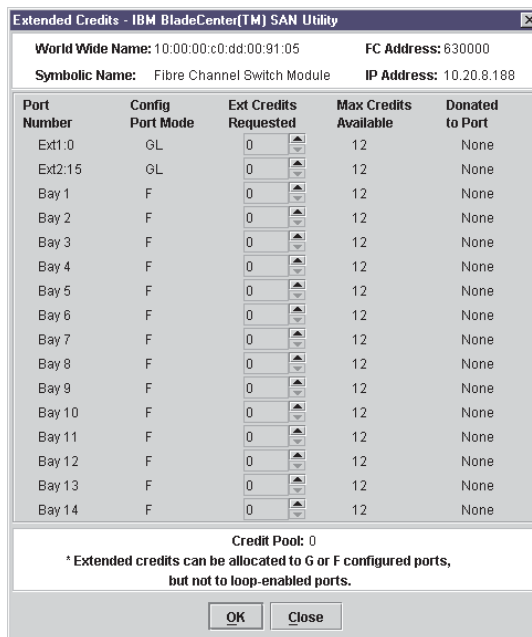

Figure 20. Extended Credits window
2. In the Faceplate window, select the recipient port. Recipient ports must be external ports configured as G\_Ports or F\_Ports. Click **Port** → **Extended Credits**. The Extended Credits window opens as shown in Figure 20.